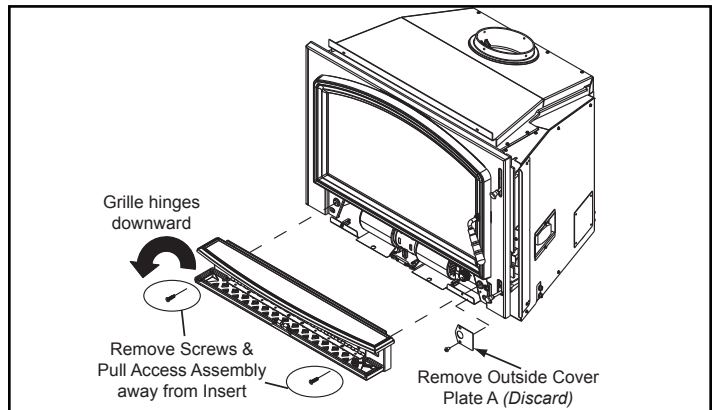

Figure 20.1
1. Swing grille down to expose the two screws. **Figure 20.1**